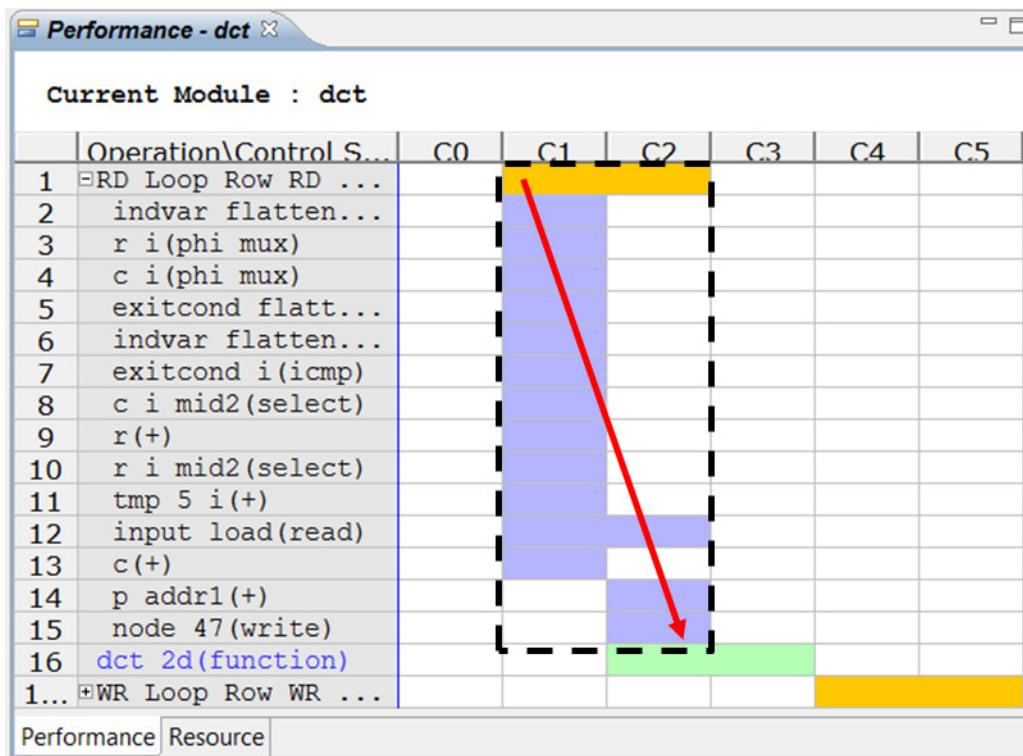

Figure 6-22: Analysis of DCT RD_Loop_Row
9. In the **Performance** view, expand the first loop in the design as shown in Figure 6-22, RD_Loop_Row_RD_Loop_Col (these loops were flattened and the name is now a concatenation of both loops).
This loop is implemented in two states. The red arrow in Figure 6-22 shows the path from the start of the loop to the end of the loop: the arrow is almost vertical (everything happens in two clock cycles) and this loop is well implemented in terms of latency.